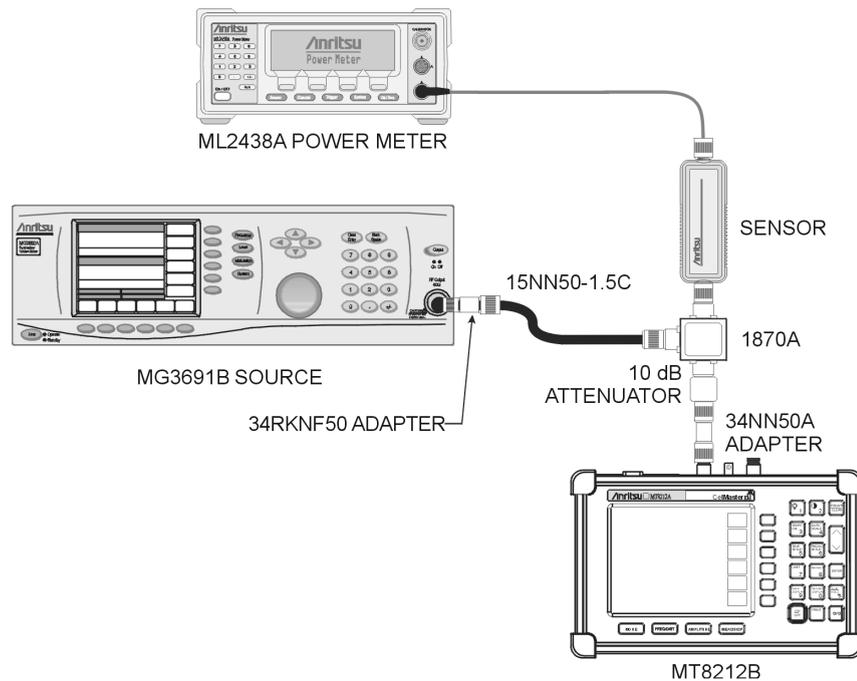

Figure 2-2. Level Accuracy Across Frequency Test Setup
12. Remove sensor A, install the 34NN50A adapter to the end of the Attenuator, and connect to the MT8212B as shown in Figure 2-2.
16. Remove sensor A, install the 34NN50A adapter to the end of the Attenuator, and connect to the MT8212B as shown in Figure 2-2.